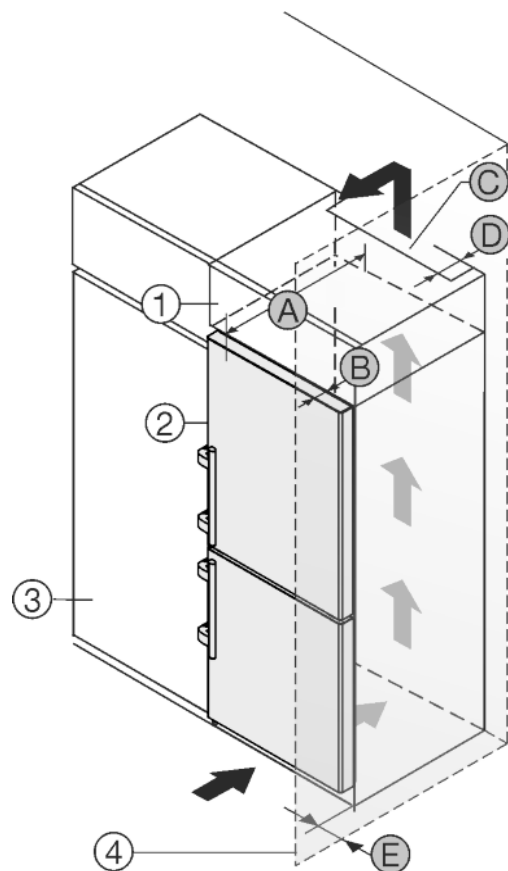

Fig. 26
The appliance can be built into kitchen units. A top cupboard *Fig. 26 (2)* can be added above the appliance in order to bring the appliance *Fig. 26 (1)* up to the height of the fitted kitchen units.
The appliance can be installed right next to the kitchen cabinet *Fig. 26 (3)*. The appliance must stick out by the depth *Fig. 26 (B)* from the front of the cabinet so that the doors can be opened fully. The appliance may protrude further depending on the depth of the kitchen cabinets and whether wall spacers are used.
- There must be a ventilation shaft with the depth *Fig. 26 (D)* at the back of the top cupboard over the entire width of the cupboard.
- The ventilation shaft *Fig. 26 (C)* must be observed under the ceiling.
If the appliance is installed with the hinges next to a wall *Fig. 26 (4)* the distance *Fig. 26 (E)* between the appliance and the wall must be observed. This is how far the handle protrudes when the door is open.